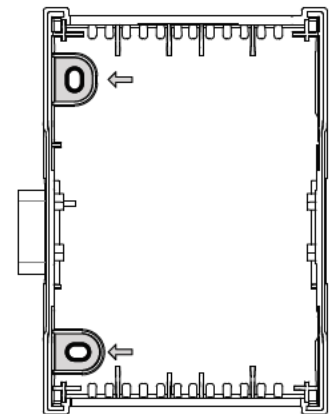

Figure 8: Back plate's mounting holes
3. Once the front assembly has been removed, use the back plate's mounting holes to mark the location of any holes that need to be drilled as shown in Figure 8.